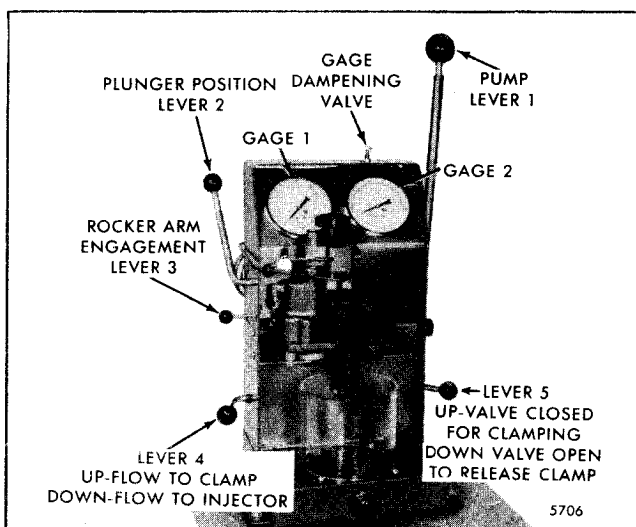

Fig. 13 - Injector in Position for Testing with Tester J 23010
1. Refer to Fig. 13 and position the tester levers as follows: